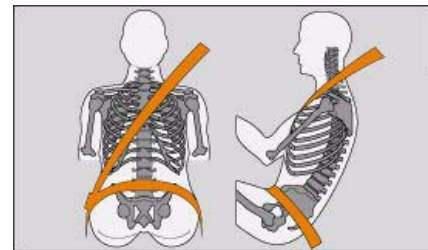

Fig. 210 Adjusting shoulder and lap belt ▶
- The diagonal part of the belt should never be positioned across the neck, but roughly over the centre of the shoulder; it should fit closely against the upper part of the body. The lap part of the belt must be worn tightly across the hips, and not over the abdomen ⇒ page 197, fig. 210. Pull the belt tight if necessary to take up any slack.